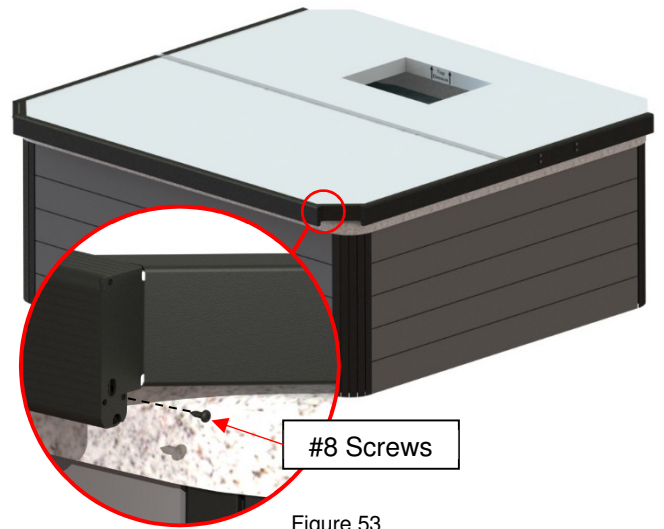

Figure 53
11) Snap on a remaining side C channel, 83 3/4 in. (213 cm) at the end of the front panel. It is recommended to slightly engage the top flange before the bottom when sliding the C-channel onto the foam panel. (Figure 53)
12) Screw in the second Robertson sheet metal #8 x 3/4 in. screws in the inner holes of the corner brackets on both sides of the cover. (Figure 53)